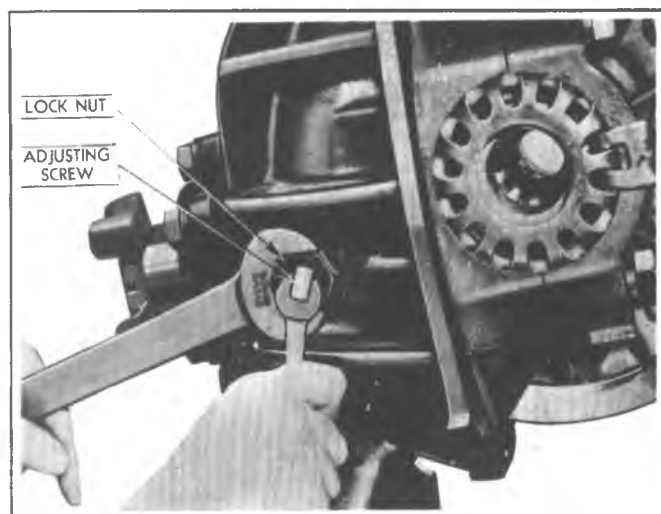

Fig. 11G-Ring Gear Thrust Pad Adjustment
1. With differential bearing cap bolts loosened just enough to permit turning the bearing adjustment nuts with Tool J-0972, remove all lash between ring gear and pinion. See figure 11G.
3. Back off screw one-twelfth (1/12) turn and tighten locknut to specifications. See figure 11G.